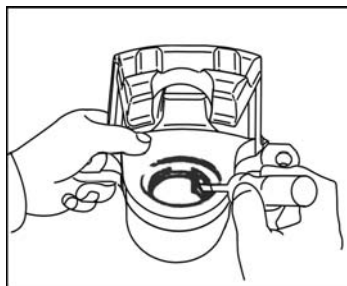

Fig. 2-64
9) Dismantle the dustproof cover of the brake slave cylinder. Remove the fixing ring and dustproof cover by a screwdriver. See Fig. 2-64.